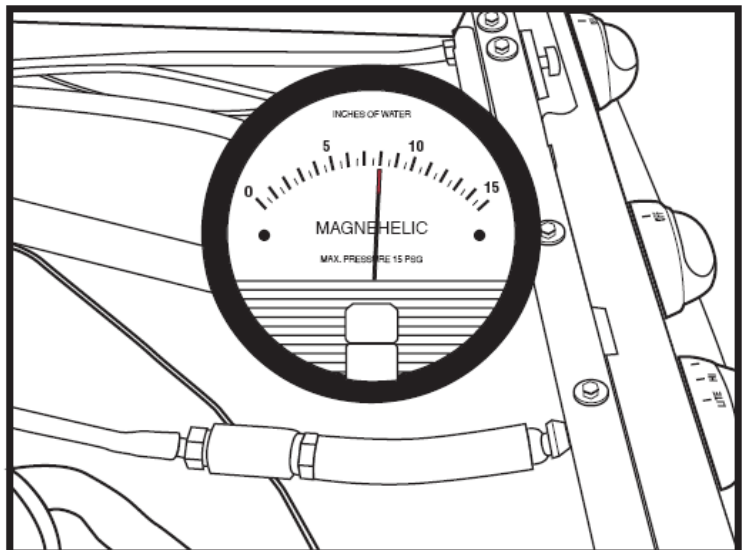

FIGURE 2
2. Reduce system pressure to 8" (200 mm) water column (see FIGURE 2) so that the appliance regulator is in an open condition by opening an adjacent valve. Skipping this step will invalidate the results.